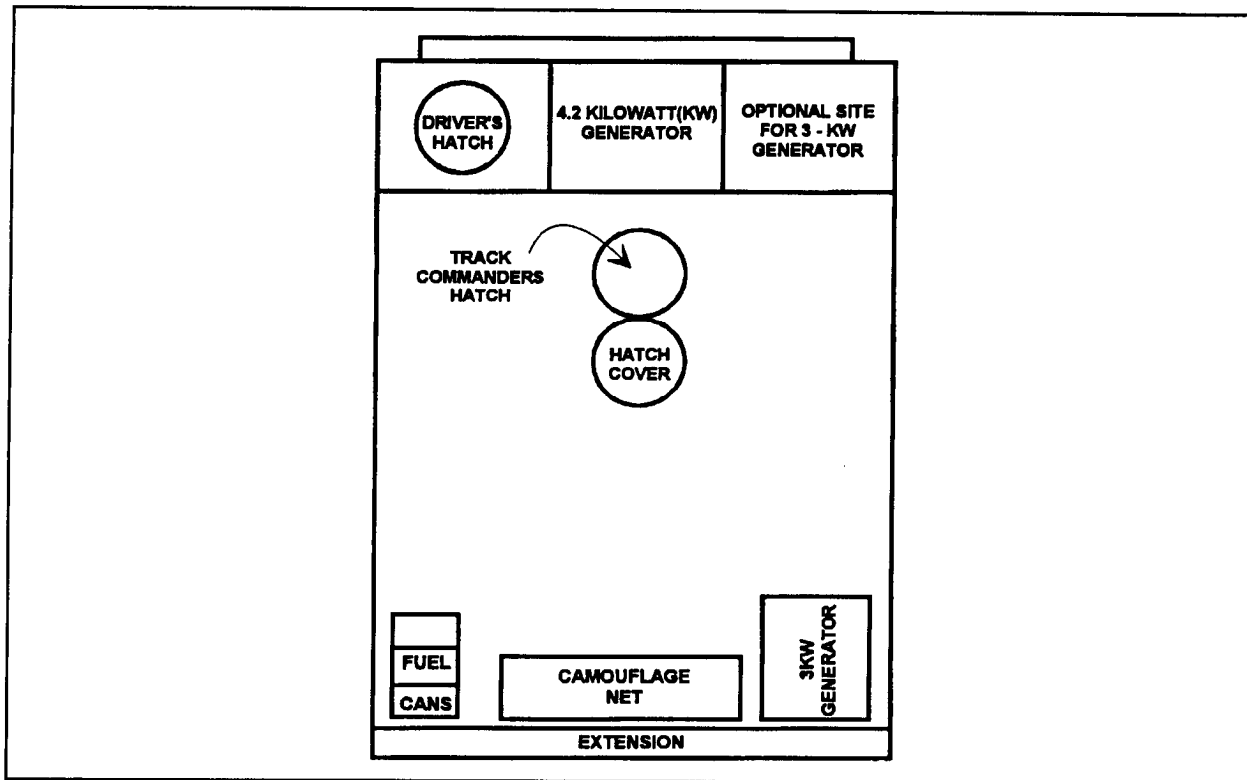

Figure A-1. External Top View of Battery FDC in an M577A1/A2 Command Post Vehicle.
(1) The lightweight computer unit (LCU)-BCS is the primary means of computing technical firing data within the platoon.
(2) The LCU-BCS-BUCS is the backup means of computing technical firing data.
(3) The ability to perform manual fire direction must be maintained to change to manual fire direction techniques at any time. Each FDC should maintain one firing chart with the appropriate fire direction equipment and manuals to support all manual cannon gunnery operations. The firing charts should serve as an emergency backup for BCS and BUCS,
c. Figures A-1 through A-5 show suggested layouts of battery FDCs, including manual, automated, and howitzer improvement program (HIP) configurations. Applicability of these configurations will depend on the inherent mission and equipment of the unit concerned. Address questions or comments concerning these layouts to: